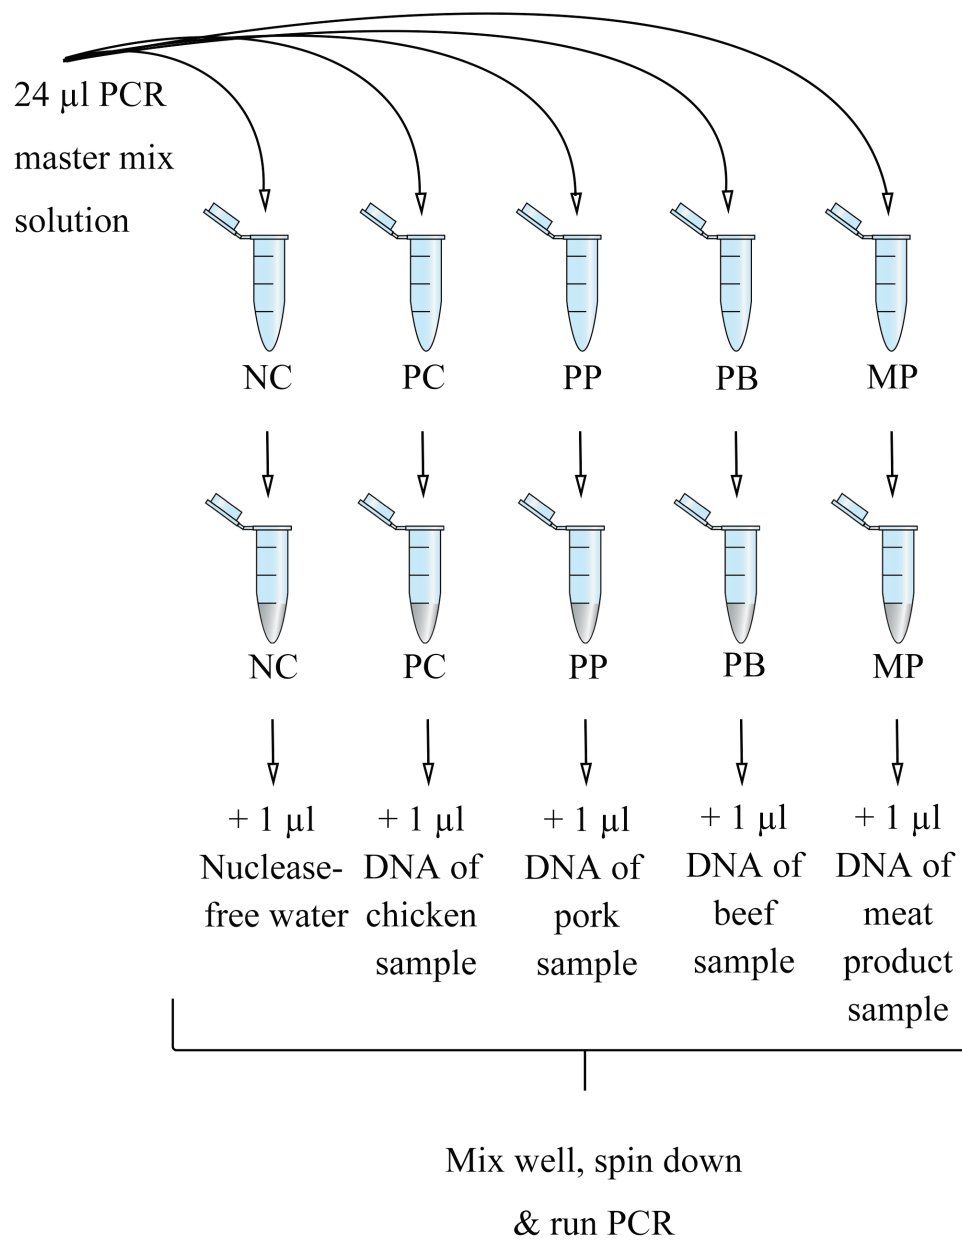

Fig. 2 Flow diagram of Part (1) of the experiment
2. Using a P200 micropipette and new sterile tips, transfer 24 μ l master mix solution into each of the 0.20 ml PCR tubes (see Fig. 2; the components of the master mix solution are listed in Table 2).
3. Using a P10 micropipette and new sterile tips*, add 1 μ l DNA sample or nuclease-free water as indicated in Table 3 into the corresponding tubes (See Fig. 2).
4. Finger-flick the tubes to mix the contents (see Fig. 2).
5. Spin down the solution by the micro-centrifuge (see Fig. 2).
Fig. 2 summarises Steps 2–6.